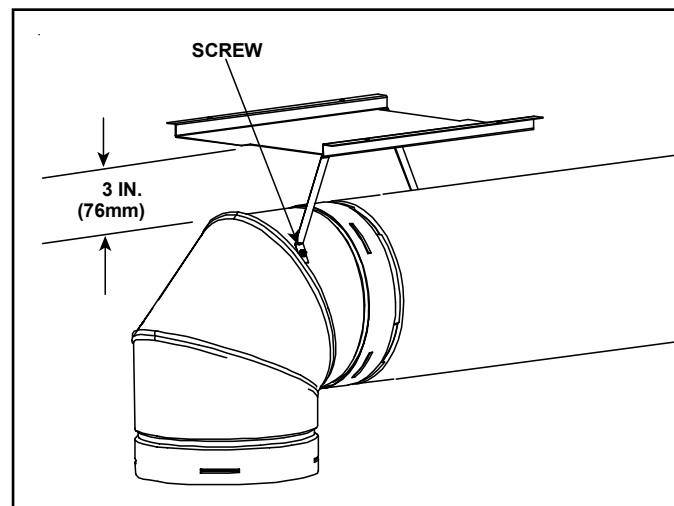

Figure 6.4. Elbow Heat Shield Installed
- If the combustable materials are not in place at the time of install the elbow heat shield may be screwed to the exhaust pipe. See Figure 6.4. Cut the tabs as shown and bend down. Secure the heat shield to the pipe maintaining 3" to 4" between the pipe and shield.
- 90° elbows may be installed and rotated to any point around the preceding component's vertical axis. If an elbow does not end up in a locked position with the preceding component, attach with a minimum of two (2) sheet metal screws.